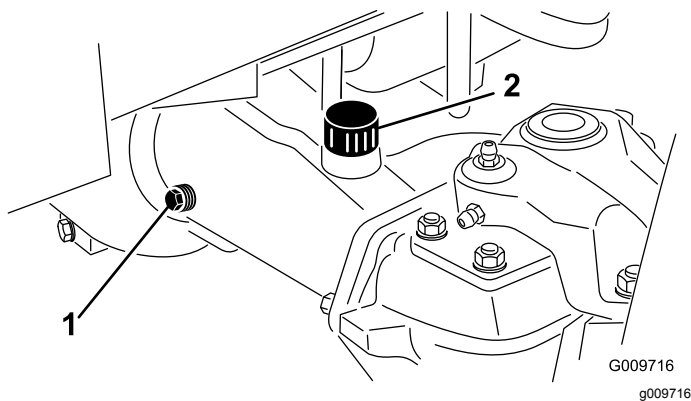

Figure 45
2. Remove a check plug from one end of the axle (Figure 45) and make sure that the lubricant is up to the bottom of the hole. If the level is low, remove the fill plug (Figure 45) and add enough lubricant to bring the level up to the bottom of the check plug holes.